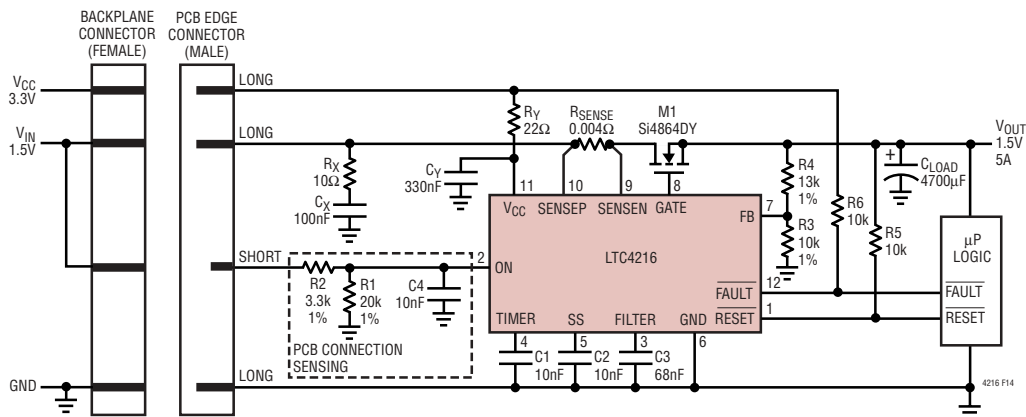

Figure 14. Single Channel 1.5V Hot Swap Controller
The LTC4216 can be used on either the backplane side of the connector or a printed circuit board, and examples for both are shown in Figure 14 and 15. Printed circuit board edge connectors with staggered pins are recommended as the insertion and removal of circuit boards will sequence the pin connections. Supplies (V_{CC} and SENSEP) and ground connections on the printed circuit board should be wired to the long pins or blades of the edge connector. Control signal (ON) and status signals (RESET and FAULT) passing through the edge connector should be wired to short pins or blades.
An example is shown in Figure 14, in which the LTC4216 is mounted on the PCB and the $R1/R2$ resistive divider is connected to the ON pin. On the edge connector, $R2$ is wired to a short pin. Before the connectors are mated, the ON pin is held low by $R1$, keeping the LTC4216 in an off state. When the connectors are mated, the resistive divider is connected to the load supply (V_{IN}) and the ON pin voltage rises above 0.8V , turning the LTC4216 on.